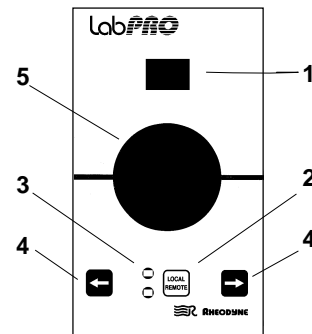
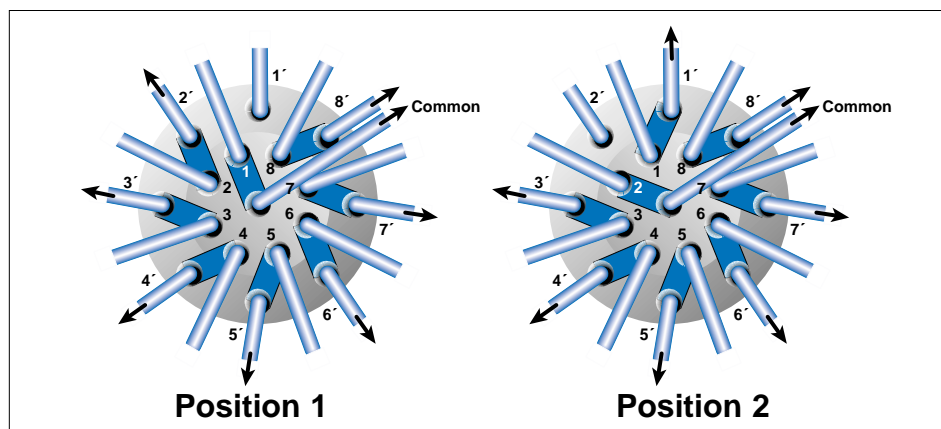

Fig. 1. Front view of LabPRO Stream Selector
Fig. 2. Flow diagram of LabPRO Stream Selector.
1. Figure 1 shows a front view of the Stream Selector.
2. The Numeric Display (1) shows the number of the valve position.
3. The Local-Remote button (2) controls the manual or remote position selection.
4. The Mode indicator lights (3) show the selection mode.
5. The Manual Operation buttons (4) move the position of the valve when in Local mode.
6. The valve (5) is located to provide easy access to the liquid end should servicing be required. The supplied Rheodyne fittings match the valve's material of construction.
7. Figure 2 shows a schematic flow diagram of two positions of the Stream Selector. The circles represent the ports in the valve stator. The dark grooves are the connecting passages in the rotor seal.